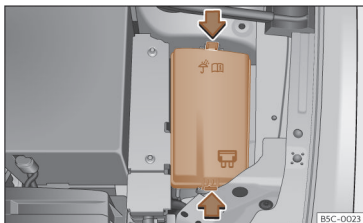

Fig. 220 In the engine compartment: lid of the fuse box.
- Press the locking tabs to unlock the fuse box cover >>> **Fig. 220**.